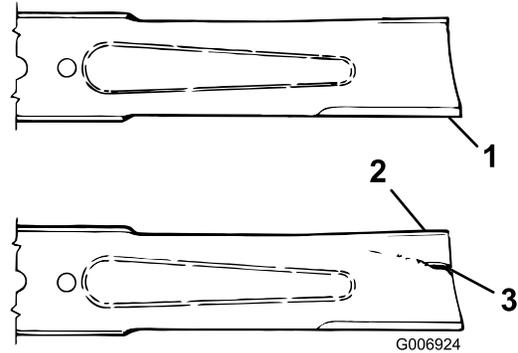

Figure 62
3. Examine the cutting ends of the blade carefully, especially where the flat and curved parts of the blade meet (Figure 62).
4. Since sand and abrasive material can wear away the metal that connects the flat and curved parts of the blade, check the blade before using the machine. If wear is noticed (Figure 62), replace the blade; refer to Removing the Cutter Blade \(page 53\).
**If the blade is allowed to wear, a slot will form between the sail and flat part of the blade (Figure 62). Eventually a piece of the blade may break off and be thrown from under the housing, possibly resulting in serious injury to yourself or bystanders.**